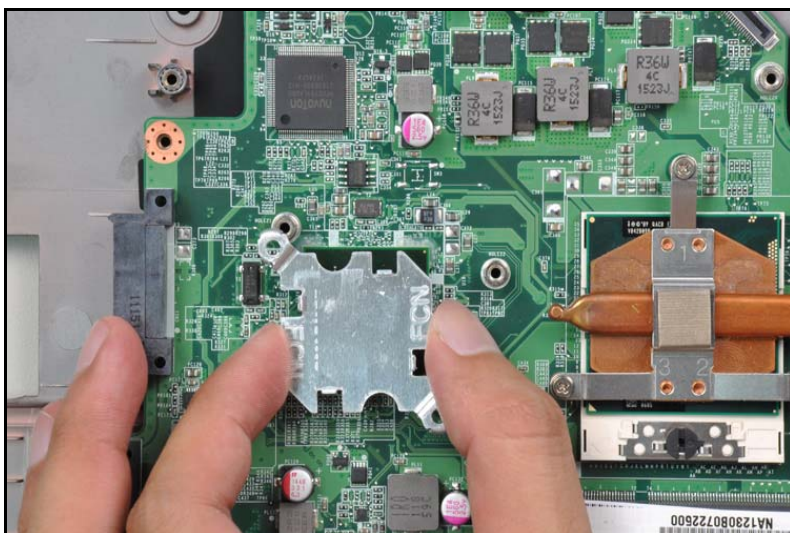

Figure 3-32. PCH Removal
3. Remove the PCH by lifting it from the mainboard (Figure 3-32).
- 1. Place the PCH onto the mainboard (Figure 3-32).